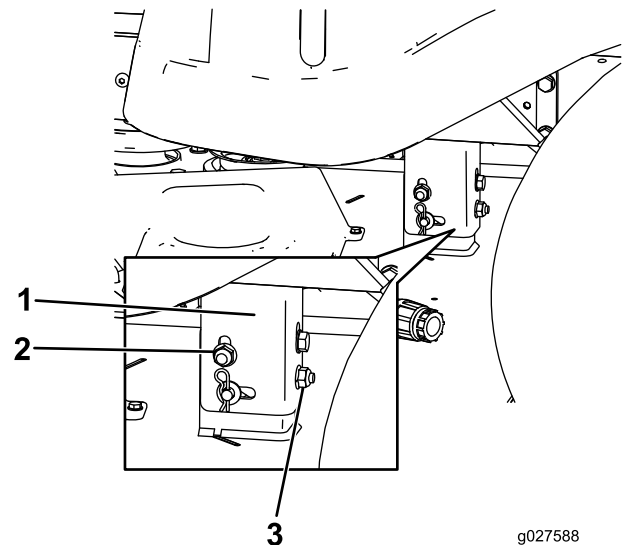

Figure 51
8. Raise or lower the left side of the mower deck by rotating the rear nut. (Figure 51).